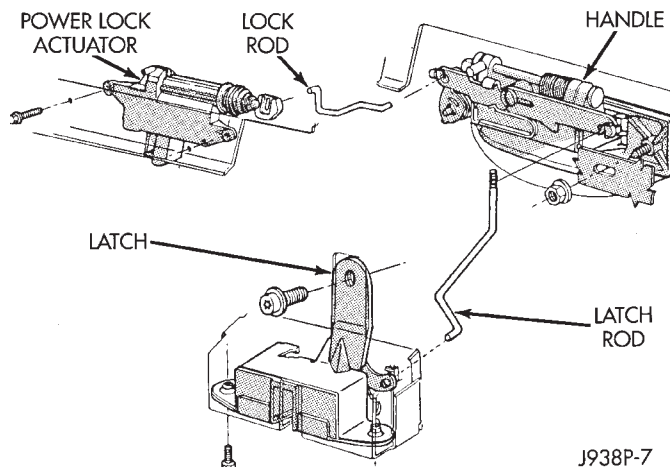

Fig. 5 Liftgate Lock Motor Remove/Install
(7) Remove the two screws that secure the power lock actuator motor to the liftgate inner panel (Fig. 5).
(8) Pull the power lock motor out through the liftgate inner panel access hole far enough to access the wire harness connector.